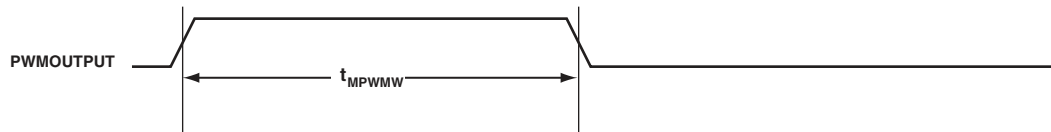

Figure 57. PWM MP Mode Timing, Output Pulse
Table 86 and Figure 57 describe medium precision (MP) PWM operations.